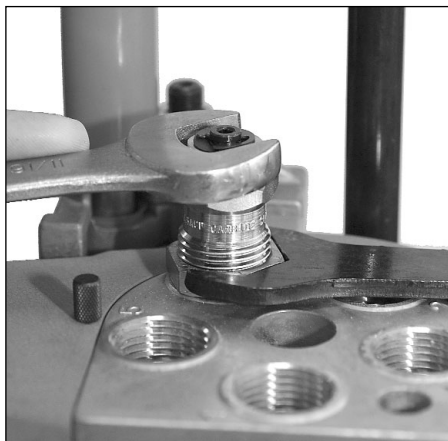

FIG 29
7. Using a 1-1/8" wrench to turn the locking, and bench wrench to hold the die body, tighten the 1" locking FIG 29.